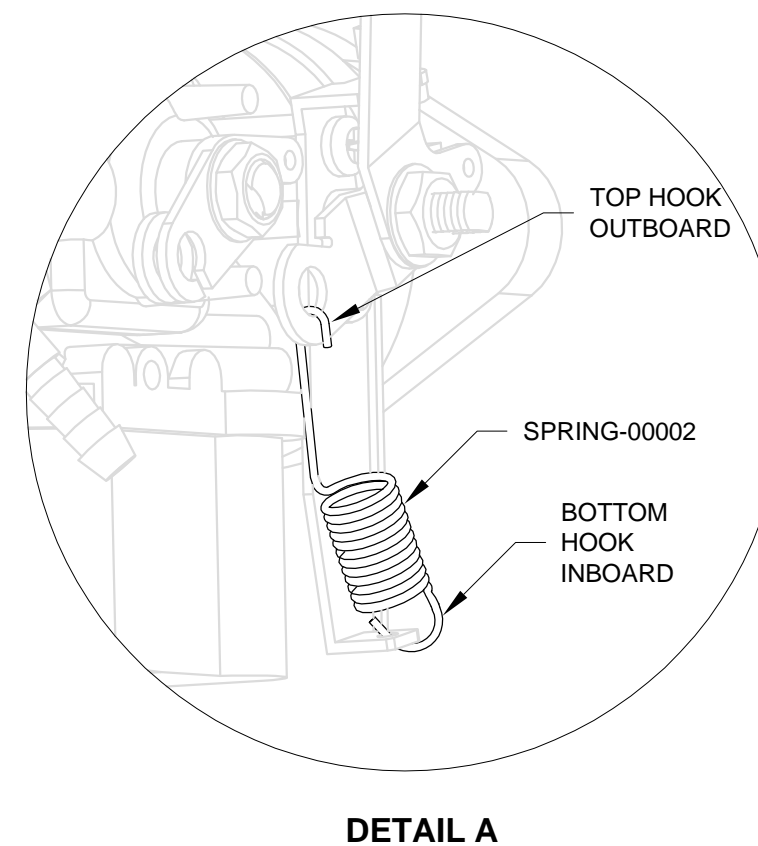

**FIGURE 1:**
**Step 3:** Install the conduit of the right Throttle Cable (the longer of the two cables) to the cable bracket using the hardware called out in Figure 1. Adjust the nuts so that the cable bracket will be approximately centered on the threaded portion of the conduit, then tighten.
**Step 4:** Thread the Throttle Cable lead through the CT-00101 Stop Nut and into the hole in the shank of the VA-219 RV-12 Control Cable Bolt. Loosely attach the throttle arm hardware as called out in Figure 1.